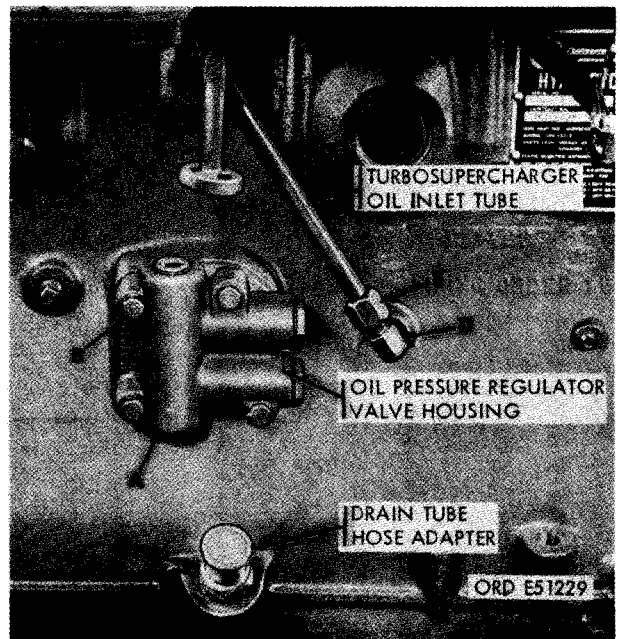

FIGURE 489. INSTALLING OIL PRESSURE REGULATOR VALVE HOUSING, TURBO-SUPERCHARGER OIL INLET TUBE, AND OIL DRAIN TUBE ADAPTER (LATE MODEL ENGINES).
a. Late Model Engines. Figure 489. (A) Position a new regulator valve housing gasket (fig. 254) on cylinder and crankcase and position